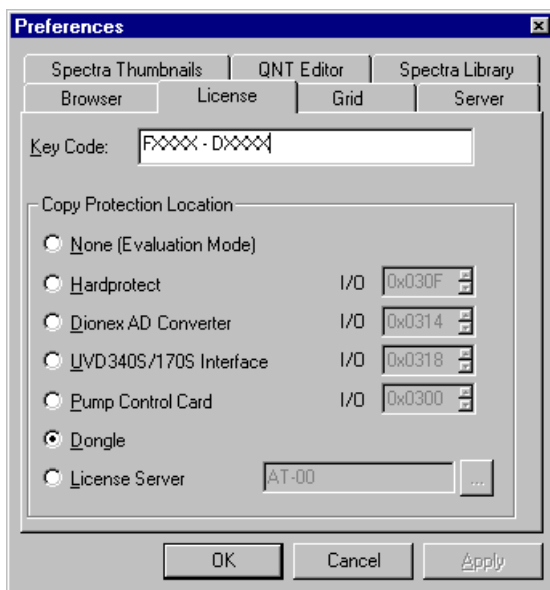

Figure 5. Preferences: License Page
5. Select **File>Preferences** to open the Preferences dialog box (see Figure 5). Select the **License** tab and click **Dongle**. Enter the **Key Code** exactly as it appears on the Chromeleon Software License key code sheet. Click **OK**.